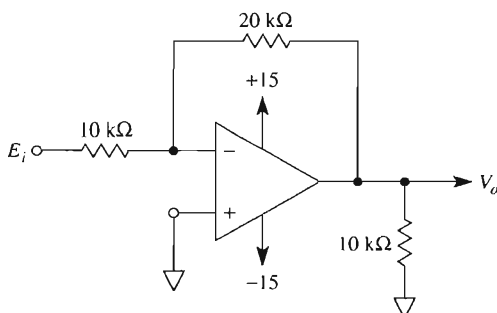

FIGURE P3-4
3-4. Identify the circuit in Fig. P3-4.
- 3-5. Calculate V_o and the op amp's output current in Fig. P3-4 if E_i equals (a) $+5$ V; (b) -2 V. For each situation, state if the op amp sources or sinks current.
- 3-6. Calculate E_i in Fig. P3-4 if V_o equals (a) $+5$ V; (b) -2 V.
- 3-7. Let E_i be a triangle wave with a frequency of 100 Hz and a peak value of 5 V in Fig. P3-4. (a) Plot E_i and V_o vs. time; (b) V_o vs. E_i .